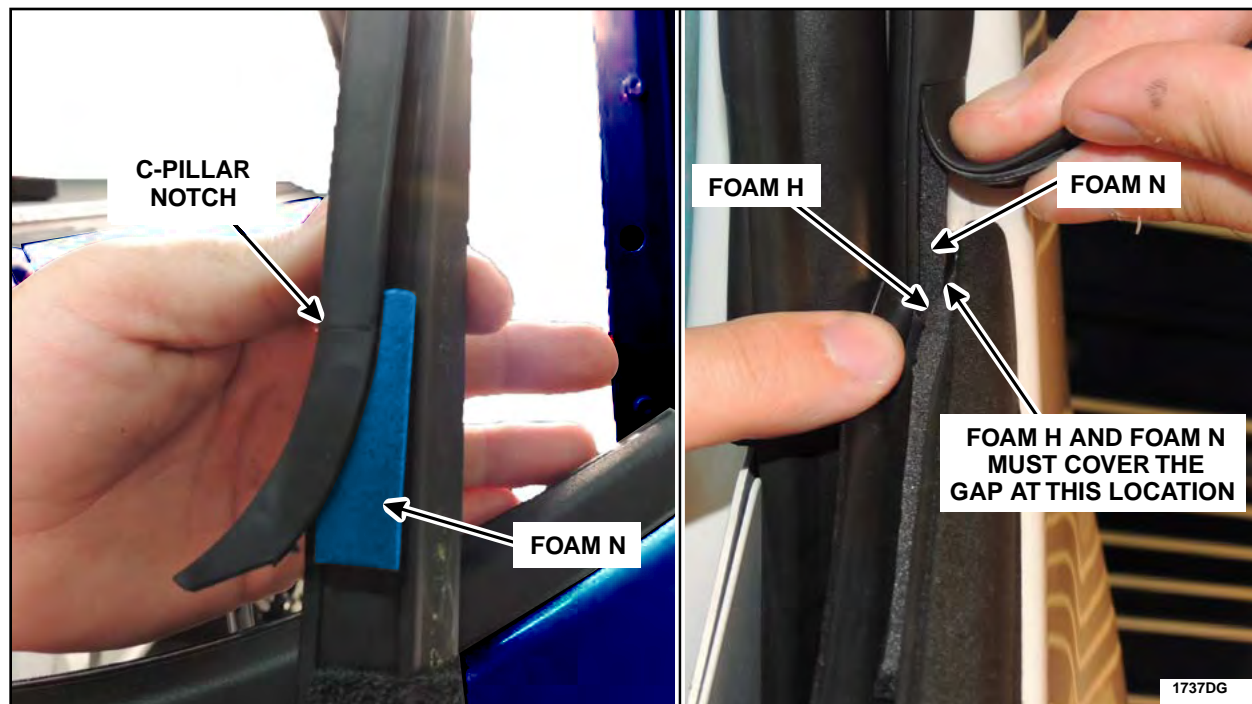

FIGURE 71
13. Install Foam N to the highlighted area of rear door glass top run making sure that the Foam N is under the C-Pillar notch. See Figure 71.